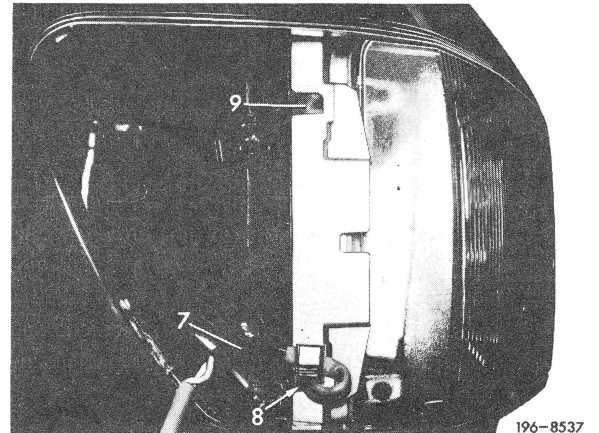

Fig. 2
7 Fit blinker light cable (7) at end of protective envelope by means of plastic insulating tape (Fig. 2).